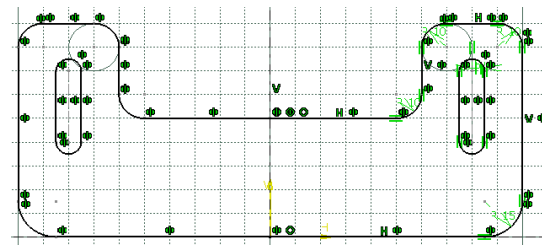

Figure 3-61 The sketch after mirroring
- Mirror the sketch along the vertical axis of origin, refer to Figure 3-61.
3. Select the vertical axis; the sketch is mirrored to the other side of the selected axis, as shown in Figure 3-61.